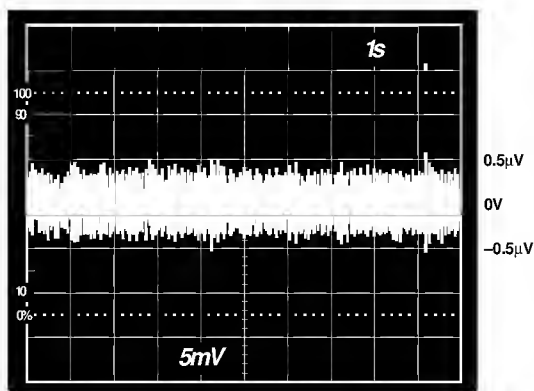
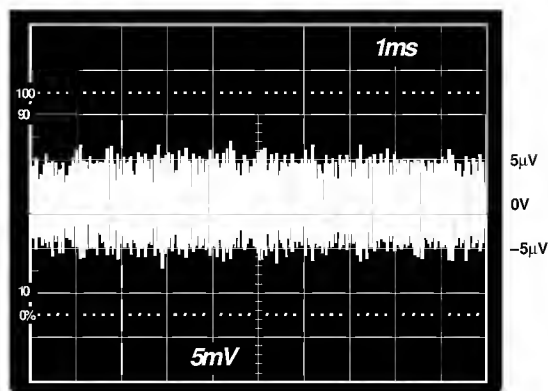

Figure 17. Low Frequency Voltage Noise from 0.1 Hz to 10 Hz*
Figure 19. Voltage Noise from 0 kHz to 10 kHz*
*The photographs in Figure 17 through Figure 19 were taken at $V_S = \pm 15\text{V}$ and $T_A = +25^\circ\text{C}$, using an external amplifier with a gain of 1000.
*The photographs in Figure 17 through Figure 19 were taken at $V_S = \pm 15\text{ V}$ and $T_A = +25^\circ\text{C}$, using an external amplifier with a gain of 1000.